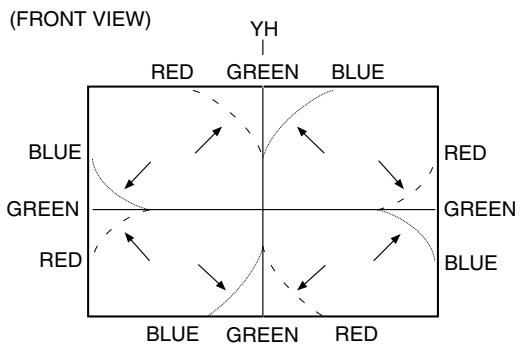

Fig. 10
3. Using the VR on the deflection yoke, match the YH (CROSS). (Fig. 10 and 12)